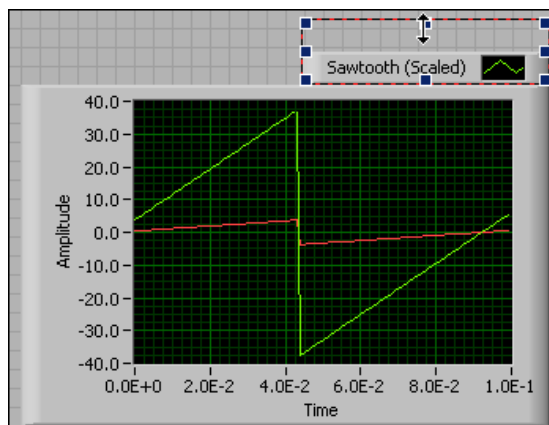

Figure 2.25
- When a double-headed arrow appears, shown in Figure 2.25, click and drag the border of the plot legend until the second plot name appears.